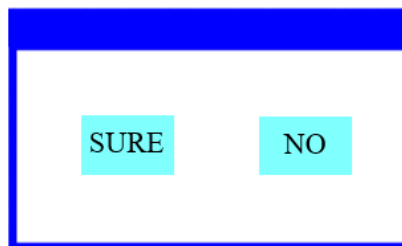

Figure 3 Dialog of confirm
- When the parameter is a key item, click corresponding item, a dialog shown in Figure 3 will been popup ask for the confirm. Click 'sure' to confirm.